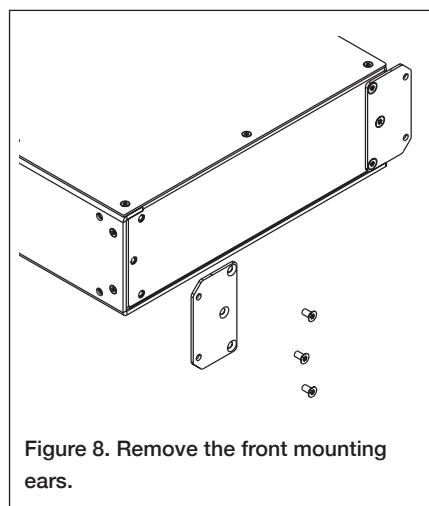

Figure 8. Remove the front mounting ears.
- Remove the front mounting ears (see figure 8).